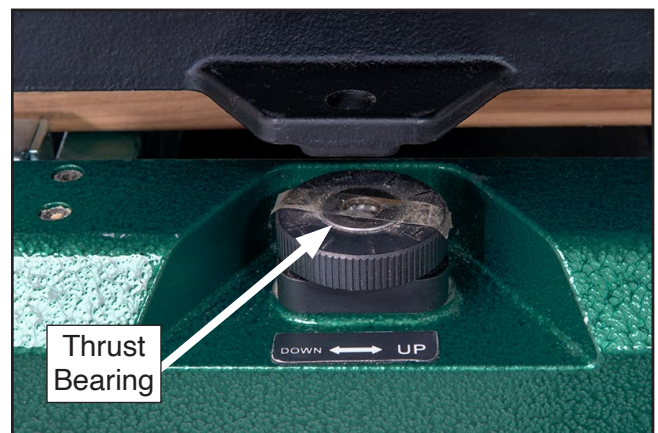

Figure 56. Thrust bearing secured with tape.
7. Tape over thrust bearing at center of alignment dial to ensure security during conveyor belt removal (see **Figure 56**).